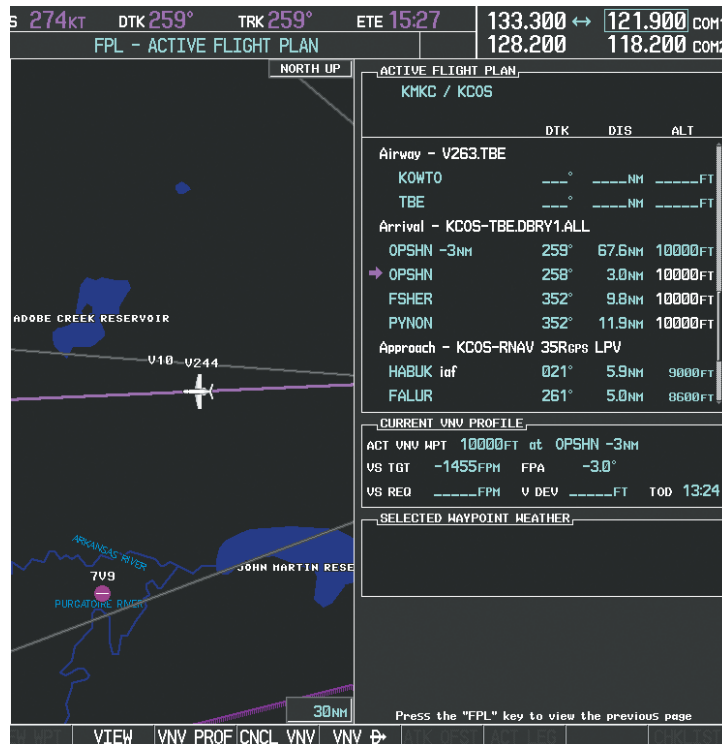

Figure 5-129 Loaded Approach
- i) With 'LOAD?' highlighted, again press the ENT Key. The selected approach is added to the flight plan as seen in Figure 5-129.